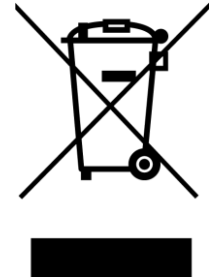

Fig.1
- The battery(s) contained in the accessory kit are pre-labelled with the BERR 'Crossed out Wheelie Bin' Logo (See Fig. 1), indicating that disposal of the batteries must be in line with EU regulations, through returning the battery to either